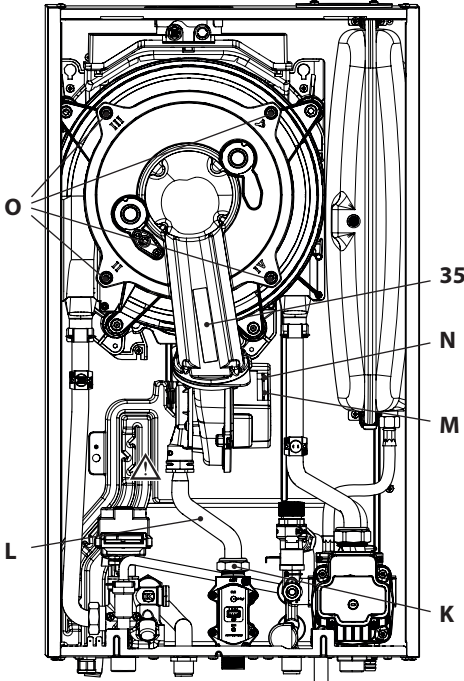

Figure 9.12
Removing the burner fan unit 35 in Figure 9.12.
- Disconnect the connector **M** by pulling it downwards (Figure 9.12).
- Disconnect the fan connector **N** by pulling it downwards (Figure 9.12).
- Loosen the nuts **O** and remove the fan burner unit 35 (Figure 9.12)